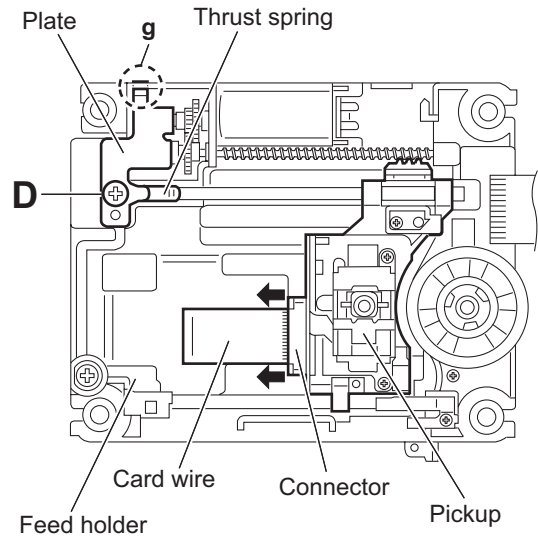

Fig.7
- (2) Release the lock of the connector on the pickup in the direction of the arrow and disconnect the card wire. (See Fig.7.)
- (3) Remove the screw **D** attaching the plate and thrust spring. (See Fig.7.)
- (4) Remove the engagement section **g** attaching the plate to the feed holder and remove the plate with the thrust spring. (See Fig.7.)
- (3) Attach the plate and thrust spring. (See Fig.7.)
### 3.2.6 Removing the feed motor (See Figs.7,11 and 12)
- (1) From the top side of the traverse mechanism assembly, remove the screw **D** attaching the plate and thrust spring. (See Fig.7.)
- (2) Remove the engagement section **g** attaching the plate to the feed holder and remove the plate with the thrust spring. (See Fig.7.)